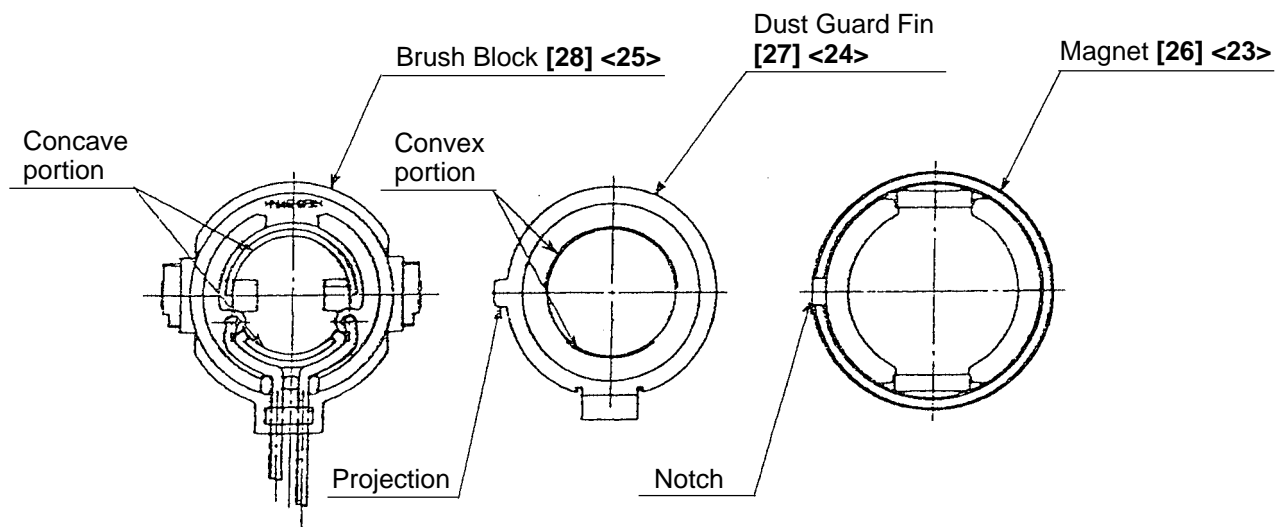

Fig. 14
- Adjust the protrusion of the Dust Guard Fin [27] <24> to the notch of the Magnet [26] <23> when mounting the Dust Guard Fin [27] <24> to the Magnet [26] <23> (See Fig. 14).
- Adjust the convex portion of the Dust Guard Fin [27] <22> to the concave portion of the Brush Block [28] <25> (See Fig. 14).
- Adjust the notch (for locking) of the Magnet [26] <23> to the protrusion of housing (A) (See Figs. 14 and 15).